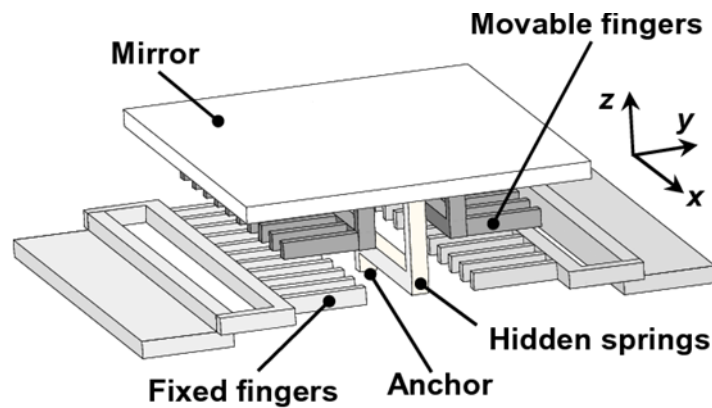

Figure 5[a]
5. [a] Comb-drive is an electromechanical actuator, having set of fixed and movable comb fingers which are interdigitated with each other, and they are fixed, and movable electrodes respectively as shown in Figure 5[a]. When external power supply is given to actuator, due to generated electrostatic attraction force, a micro-tilting movement occurs, and it is used to do switching or scanning functions.